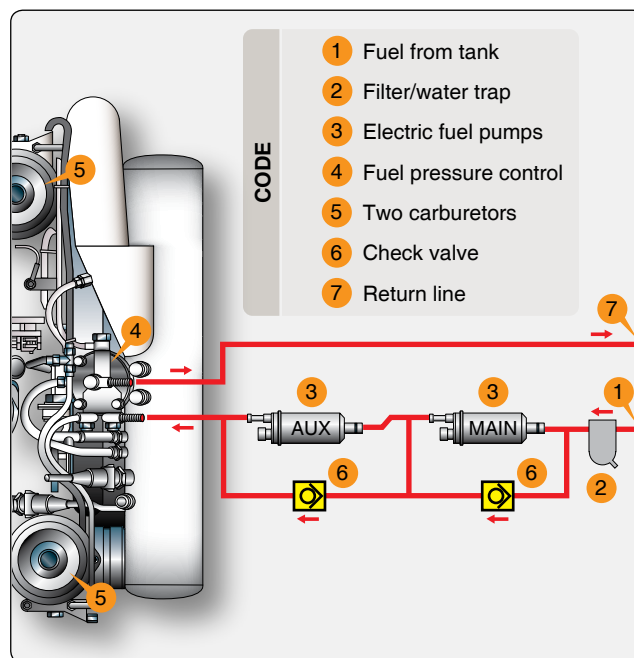

Figure 11-9. Fuel system components.
The fuel flows from the tank (1) via a coarse filter-water trap (2) to the two electric fuel pumps (3) connected in series. [Figure 11-9] From the pumps, fuel passes on via the fuel pressure control (4) to the two carburetors (5). Parallel to each fuel pump is a separate check valve (6) installed via the return line (7) that allows surplus fuel to flow back to the fuel tank. Inspection for possible constriction of diameter or